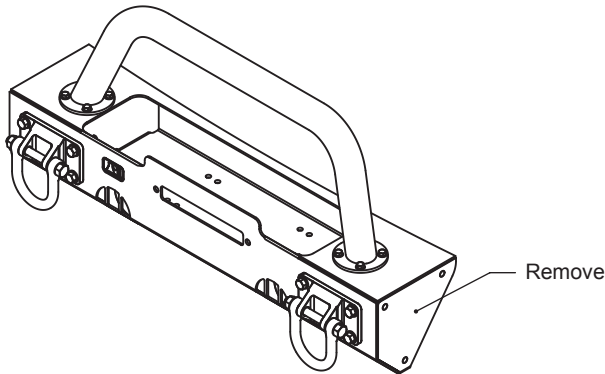

Figure 1a
1. Stubby Ends are easier to install with the Center Section of Modular XHD Bumper off of the vehicle, but can be installed with the Center Section already installed. If Stubby Ends are replacing the previously installed Filler Plates (Figure 1a), remove them so that empty ends remain (Figure 1b).